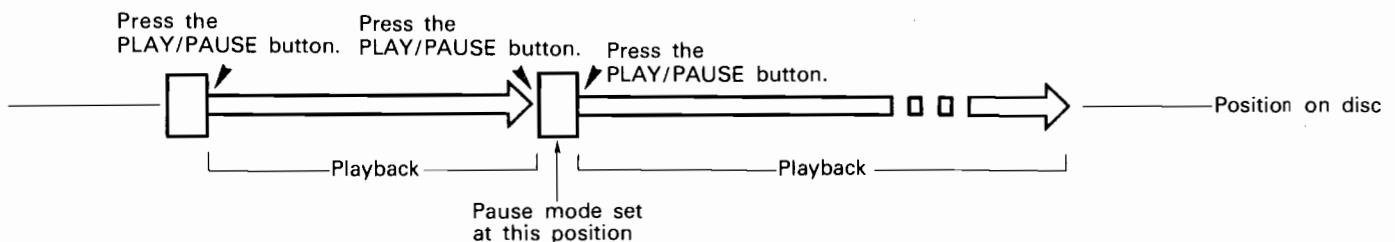

Figure 16
- Operation switches between the playback and pause modes each time the PLAY/PAUSE button is pressed. See figure 16.
Figures 16 to 18 show typical examples of the operation when the PLAY/PAUSE and CUE buttons are pressed.
When the PLAY/PAUSE button is pressed, playback begins and continues as shown by the arrow in Figure 16. The pause mode is set when the PLAY/PAUSE button is pressed during playback, and playback resumes when the PLAY/PAUSE button is pressed again.